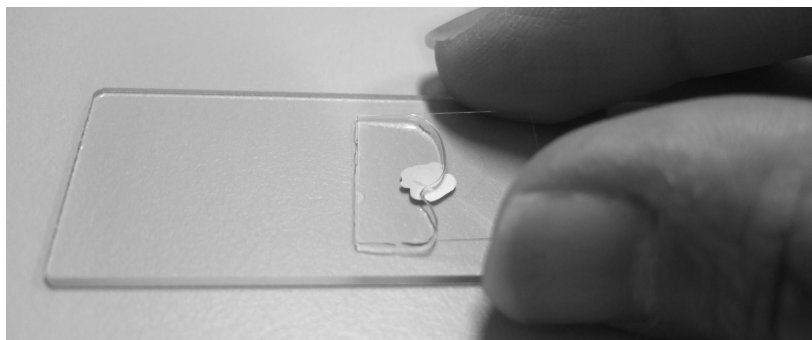

Figure II-2
3. Put the cover slip on your slide as shown in Figure II-2.